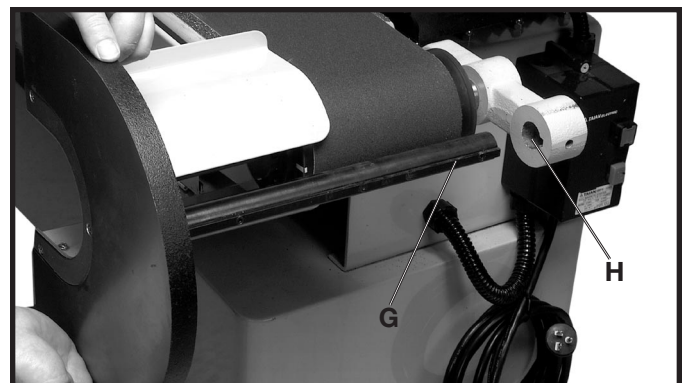

Fig. 23
6. Insert the rod (G) Fig. 23, on the sanding spindle table, through hole (H).